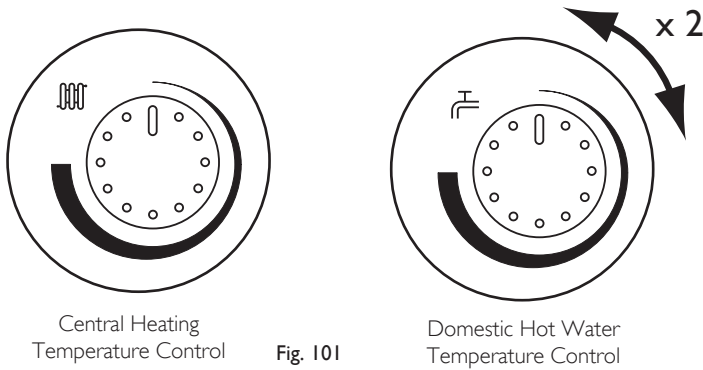

Fig. 101
3. Turn both temperature control knobs fully anticlockwise, then quickly turn the DHW temperature knob 1/4 clockwise twice and back fully anticlockwise (Fig. 101).